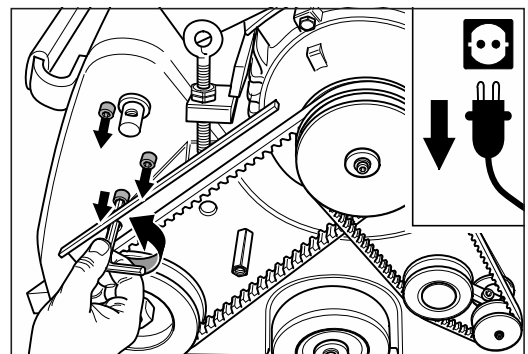

Fig. 42 Release and remove the three fixing screws of the drive unit. **Similar to figure.**
- 8 Hold on the drive unit and remove the three fixing screws of the drive unit **at the same time** (hexagonal socket screw wrench size 6 mm; fig. 42). Therefore the drive unit cannot fall on the sanding drum.